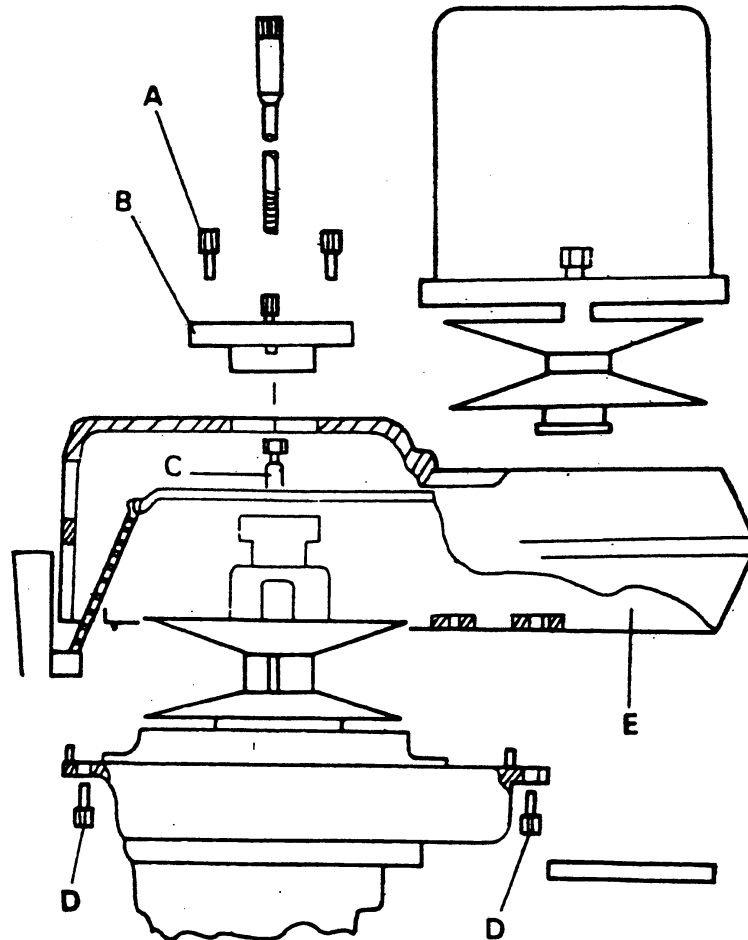

Figure 11. Removing the Vari-Drive Belt
CHANGING VARI-DRIVE BELT (Figure 11)
Complete the previous procedures for removing the motor, then remove the three screws (#1, page 35) (A. Fig. 11) and lift out the top bearing cap (#13, page 33) (B). Looking down inside of the housing, locate and remove the socket head cap screws (#17, page 35) and sleeves (#19, page 35) (C). Next, remove the six screws (#64, page 35) (D), then holding the belt housing (E) to the base (#63, page 35).